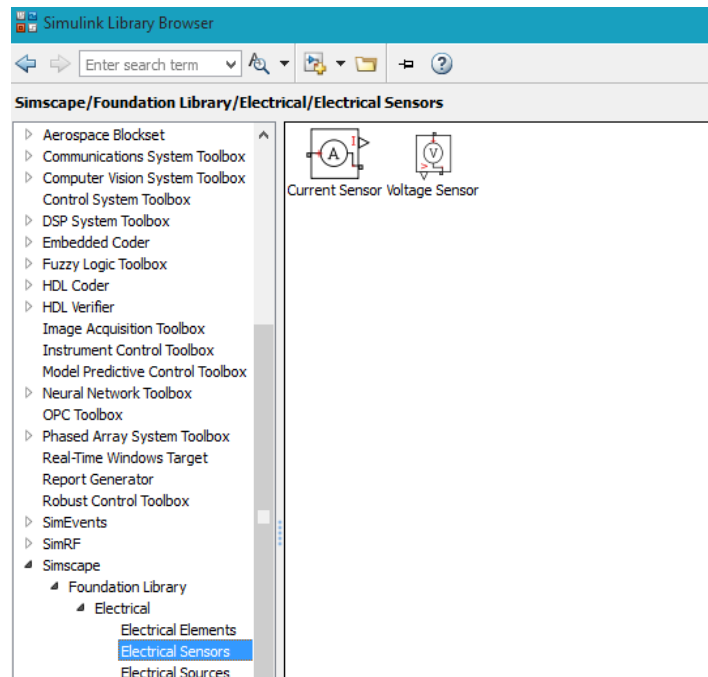
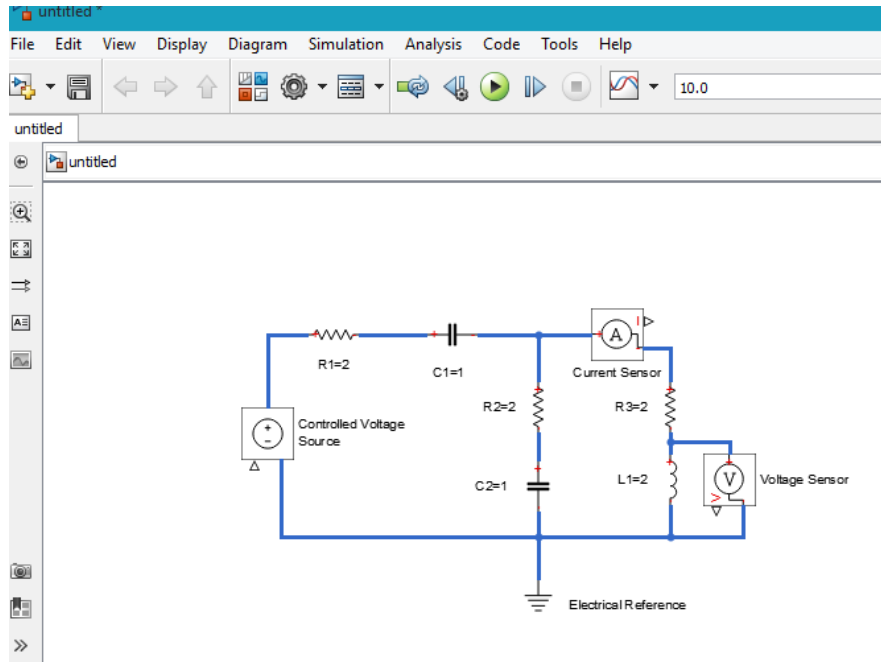

Figure 3.10: Electrical Sensor
Figure 3.11: Electrical circuit using SimScape
8. Add the sensor to measure speed and position of the mass. Place the Voltage and current Sensors block from the Electrical Sensors library figure 3.10 into your diagram and connect it as shown in figure 3.11.